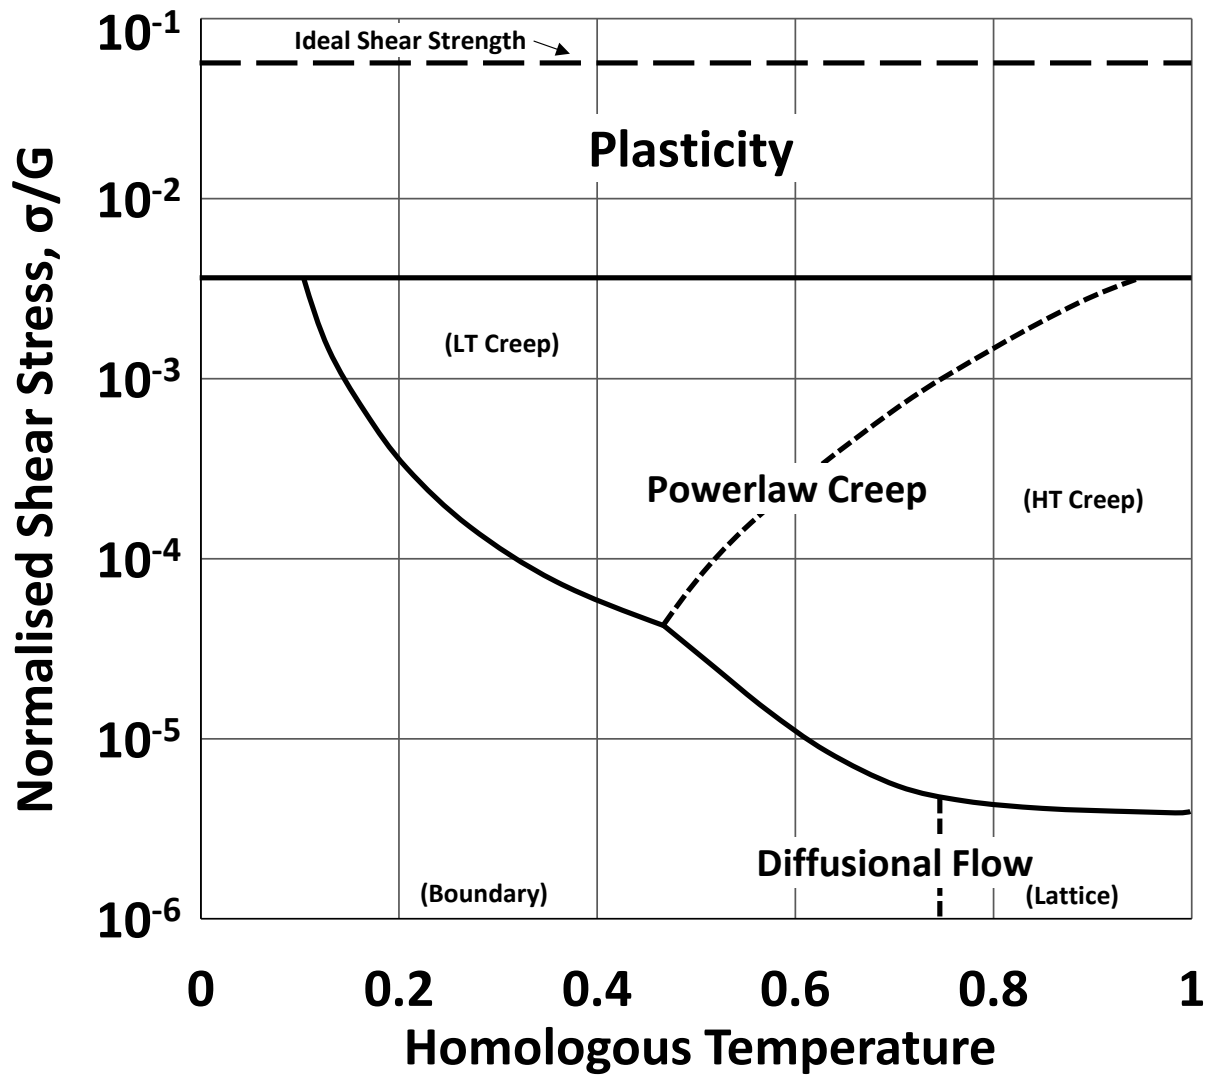

Figure Q3: Deformation mechanism map for pure nickel with a grain size of 1 mm.
- (b) Provide brief details of the following mechanisms of plastic flow given in the deformation mechanism map in Figure Q3.
- (c) Ni with a grain size of 1 mm is chosen for a component designed to operate at elevated temperatures. Using Figure Q3, calculate the shear strain rate  $\dot{\gamma}$  if the operating conditions are an applied normalised shear stress of  $1 \times 10^{-3}$  at  $0.4T_m$ . State all assumptions and show all working. [9]